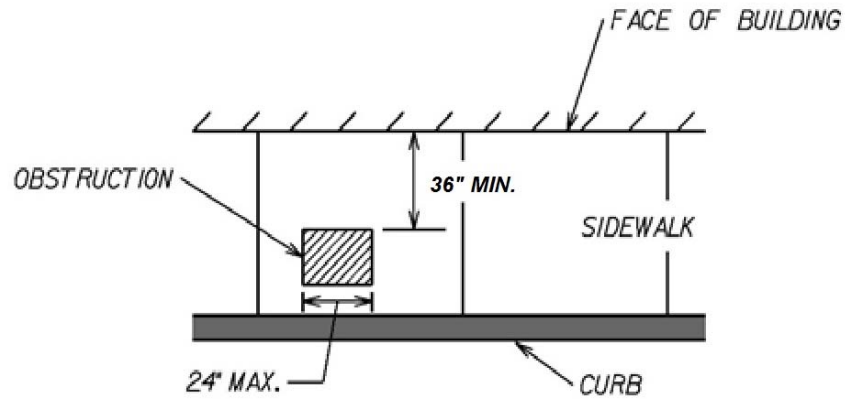

Figure 18B - Clear Width with Obstructions
- Clear widths (around obstructions) are 36 in. minimum, exclusive of the curb, and 24 in. maximum in the direction of pedestrian travel (see **Figure 18B**). *2010 ADA 403.5.1; TDOT Ped Standards*